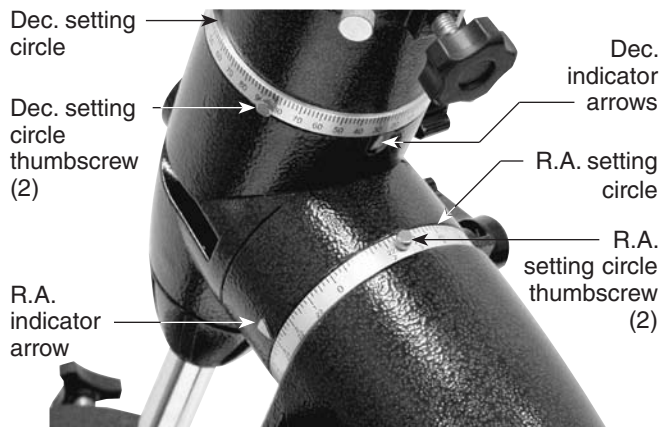

Figure 9. The R.A. and Dec. setting circles.
The R.A. setting circle is scaled in hours, from 1 through 24, with small marks in between representing 10-minute increments (there are 60 minutes in 1 hour of right ascension). The lower set of numbers apply to viewing in the Northern Hemisphere, while the numbers above them apply to viewing in the Southern Hemisphere. The location of the right ascension coordinate indicator arrow is shown in Figure 9.
4. Loosen one of the R.A. setting circle thumbscrews (see Figure 9; this will allow the setting circle to rotate freely. Rotate the setting circle until the R.A. pointer arrow indicates the R.A. coordinate listed in the star atlas for the object. Re-tighten the setting circle thumbscrew.